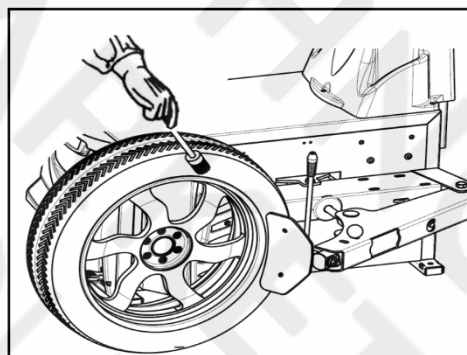

FIG23
- Place the tire between then bead breaking blade and tire pressing runner clog (FIG23). Then step down the tire press pedal (FIG3-12) to detach the rim from the tire. Repeat the same operation on the other parts of the tire to make the tire completely detached from the rim.